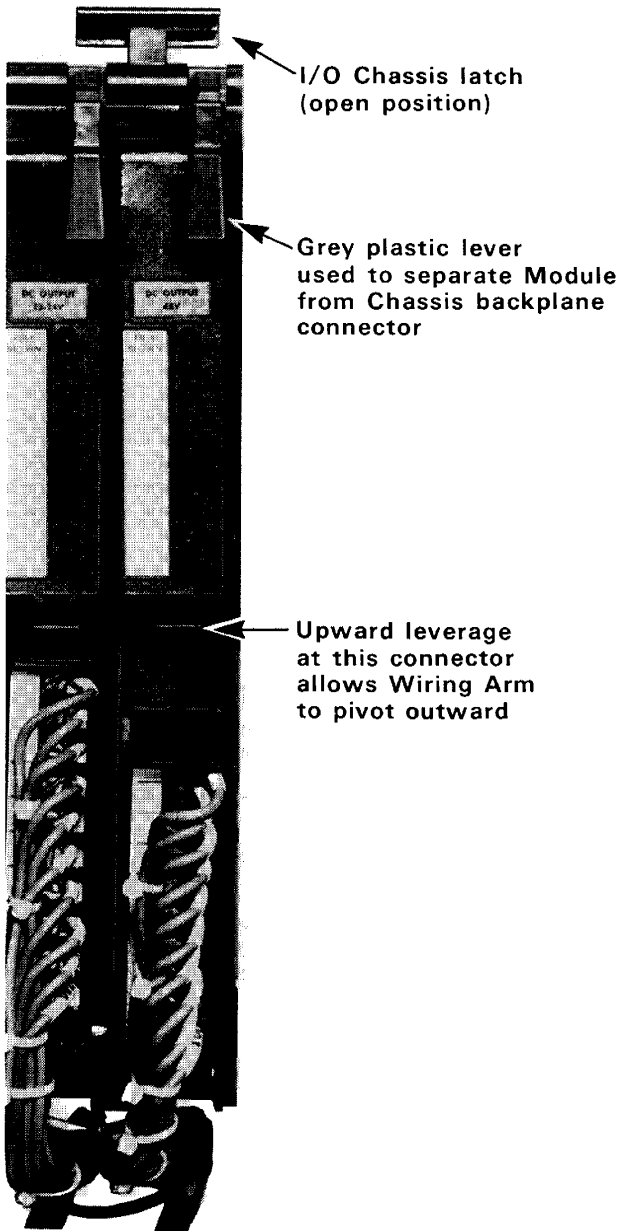

Figure 5.7 — Module Removal
- **Step No. 2** — Snap up the latch which holds the module in the I/O Chassis. (Refer to Figure 5.7.)
- **Step No. 3** — Pivot the Field Wiring Arm out from the module. A lever on the front of the module holds the Wiring Arm in place. With slight upward thumb pressure, this lever can be lifted to allow release of the Wiring Arm. (Refer to Figure 5.7.) The Wiring Arm can then be pivoted into horizontal position.
- **Step No. 2** – Snap up the latch which holds the module in the I/O Chassis. (Refer to Figure 5.7.)
- **Step No. 3** – Pivot the Field Wiring Arm out from the module. A lever on the front of the module holds the Wiring Arm in place. With slight upward thumb pressure, this lever can be lifted to allow release of the Wiring Arm. (Refer to Figure 5.7.) The Wiring Arm can then be pivoted into horizontal position.